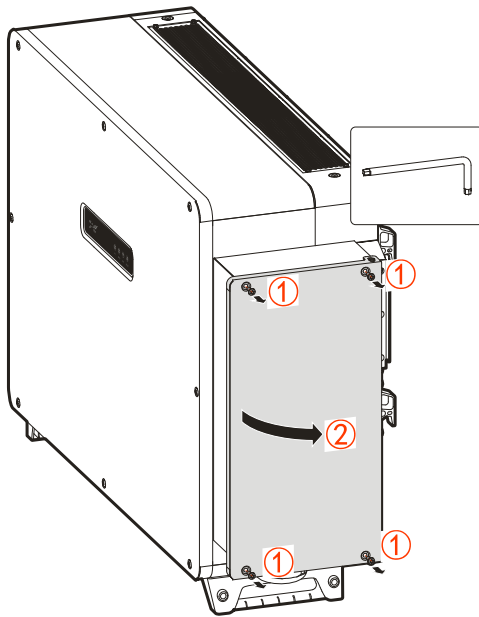

Figure3-30 Open the wiring cover
- Step 1 Open the cover of the right-side wiring box with an internal torx wrench, as shown in Figure3-30.